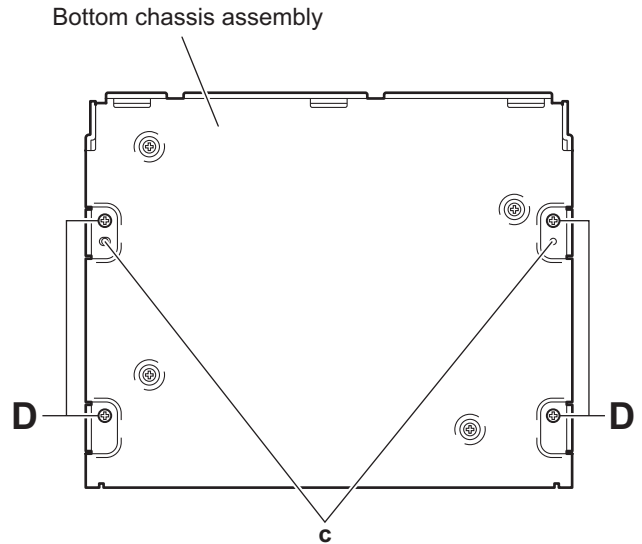

Fig.5
3.1.4 Removing the bottom chassis assembly (See Fig.5)